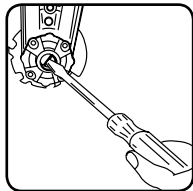
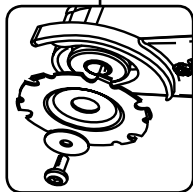

Fig.5
Fig.6
- 1 To change blades place a flat head screwdriver into the Mini Grinder spindle lock and hold (seen in fig .5) then unscrew the cutter clamping bolt by using the Allen key provided and remove blade ( as shown in fig 6)
- 3 Place top washer over blade and secure using the cutter clamping bolt (as shown in fig 6) then tighten
To change blades with Diamond or Mini Industrial Blade follow step 1 as for BLADES on OPERATION ( page 7 ) to remove blade (seen in fig .5) then unscrew the cutter clamping bolt by using the Allen key provided and remove blade (as shown in fig 6)